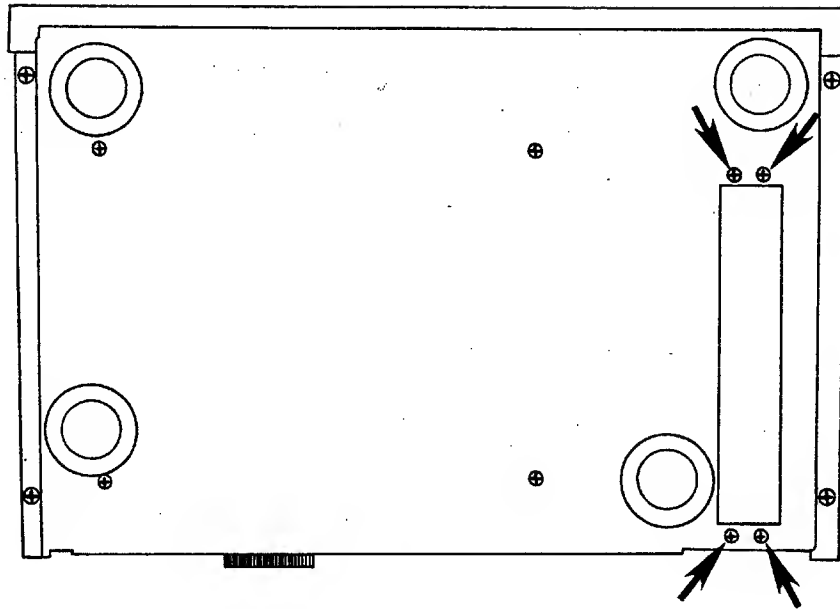

Figure 5-1: Power Supply Removal (Location of Screws)
2. Locate and remove the four mounting screws on either side of the power supply's ventilation grill (see Figure 5-1).